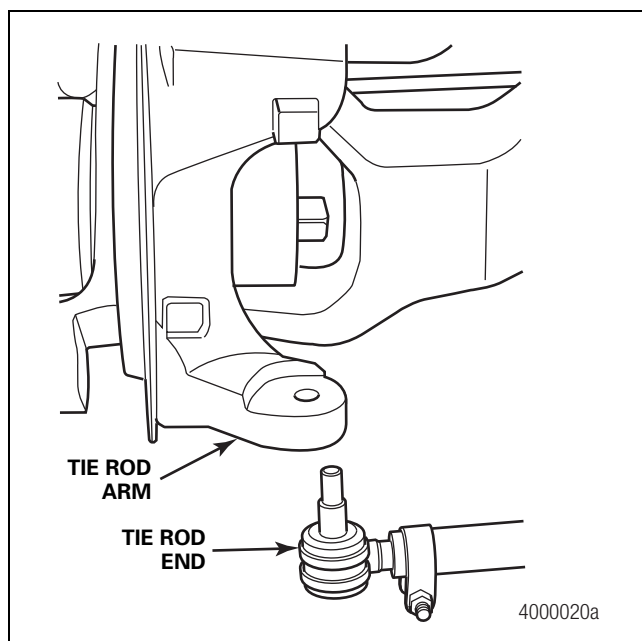

Figure 3.1
2. Disconnect the cross tube assembly from the tie rod arms. If available, use a tie rod end puller to separate the tie rod end from the tie rod arm. Figure 3.1.